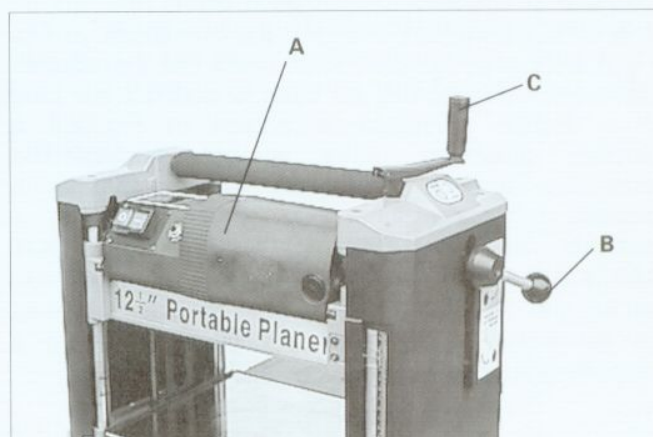

Fig. 15
The head assembly (A) Fig. 15, contains the cutterhead, feed rolls, chip deflector and motor. Raising and lowering the head assembly (A) controls the depth of cut on your planer. To raise or lower the head assembly, rotate the cutterhead lock handle (B) counterclockwise to unlock the cutterhead and turn the cutterhead raising and lowering handle (C) clockwise to raise or counterclockwise to lower the cutterhead (A). One revolution of handle (C) will move the cutterhead up or down 3/32". **FOR BEST RESULTS, ALWAYS LOCK THE CUTTERHEAD IN PLACE, BY ROTATING HANDLE (B) CLOCKWISE BEFORE PLANING.**